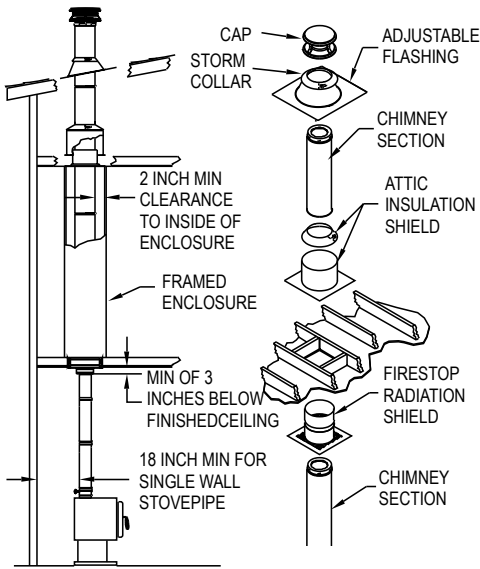

Figure 7
4. Frame Openings: Frame openings in each ceiling or floor above the Support Box (**Fig 7**). These openings are to hold the Firestop Radiation Shield and Attic Insulation Shield. Locate each opening by dropping a plumb bob to the four corners of the opening below. Maintain the framing dimensions as specified in **Table 2**.
above that where the Support Box is located. Example: in a multistory home where the appliance is on the ground floor (Support Box is in the 1st floor ceiling), you would need a Firestop Radiation Shield at the 2nd floor ceiling, and at the 3rd floor ceiling, etc., including where the chimney penetrates into the attic. **Figure 7** shows a typical 2-story installation with an attic.
- d. Slip the Attic Insulation Shield over the Chimney and Firestop Radiation Shield until the base sits squarely on the framed opening (**Fig 7 & 10**).